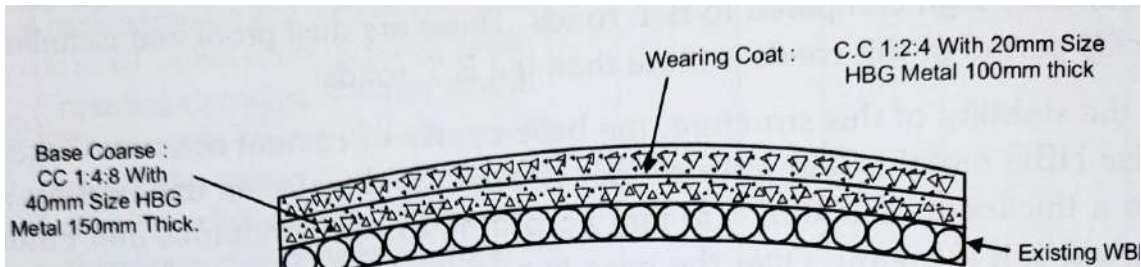

Fig.4
12. A) Prepare the detailed estimate for the cement concrete road of 1 km length with the following components (Fig.4)